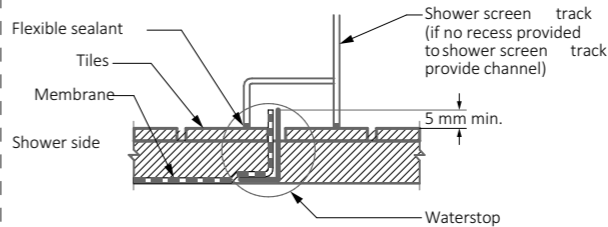
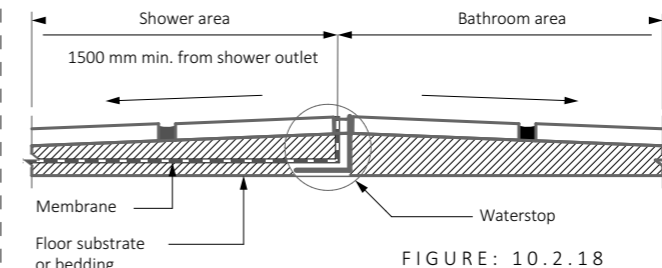

FIGURE: 10.2.17
FIGURE: 10.2.18
- a. WHERE A SHOWER SCREEN IS TO BE INSTALLED, NOT LESS THAN 5 MM ABOVE THE FINISHED FLOOR LEVEL (SEE FIGURE 10.2.17); AND
- (1) UNENCLOSED SHOWERS MUST BE CONSTRUCTED AS FOLLOWS:
- i. FLUSH WITH THE TOP SURFACE OF THE FLOOR (SEE FIGURE 10.2.18); AND
- WHERE THE SHOWER HAS A WATERSTOP, THE MEMBRANE MUST BE BROUGHT TO THE TOP OF THE FINISHED FLOOR, EXCEPT WHERE IT IS UNDER A FRAMED SHOWER SCREEN WHERE IT MUST TERMINATE NOT LESS THAN 5 MM ABOVE THE FINISHED TILE SURFACE (SEE FIGURE 10.2.17 AND FIGURE 10.2.18).